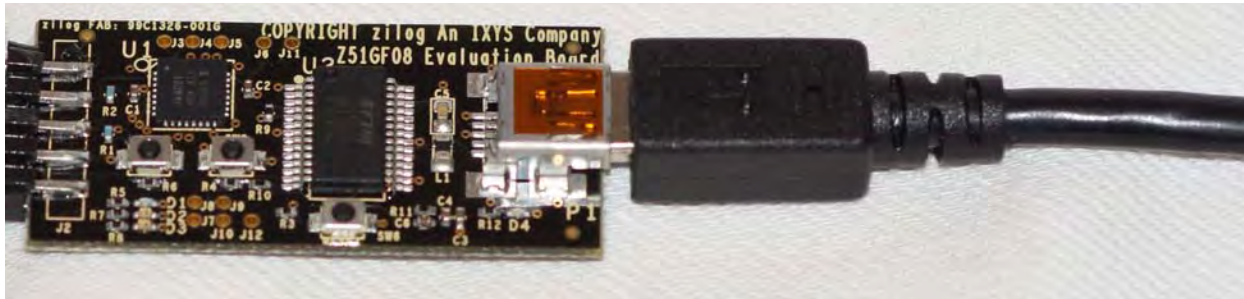
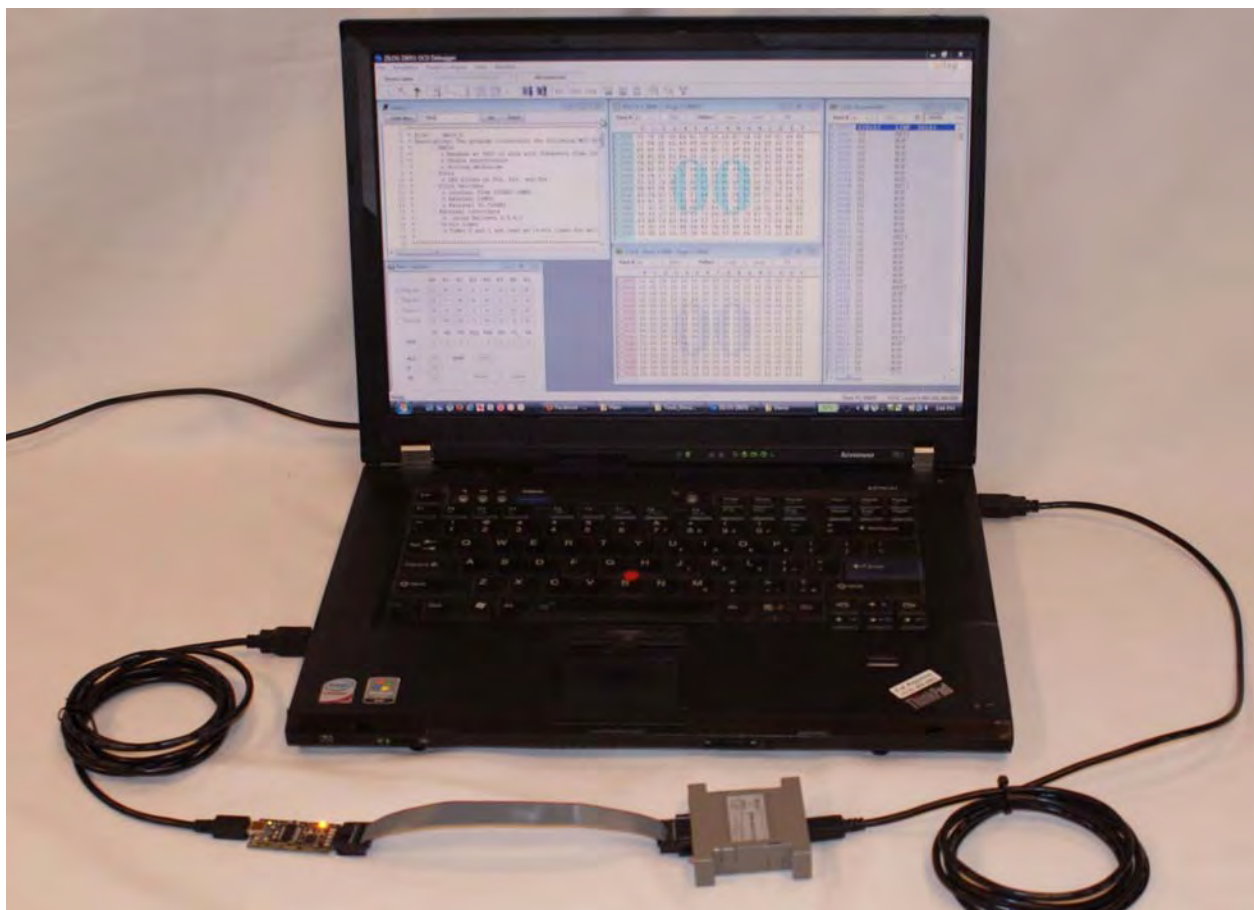

Figure 13. Connecting the USB Mini-B Cable to the Board
Figure 14. An Example Setup
4. When the installation is complete, plug in the Mini-B connector of the second USB cable into the Board, and the larger A connector into the USB port of your PC. Refer to Figure 14 on page 16 for guidance.
5. Connect the other end of this second Mini-B cable to the Z51F0811 Board's P1 connector to apply power to the Board. Note that the green LED D4 is ON; see Figure 13. Figure 14 shows an example of a completed hardware and software setup.